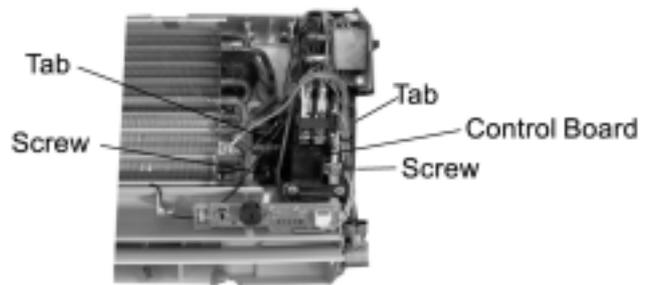

Fig 6
3. Release the tabs and screws on the left and right side of the control board to remove the control board. (Fig 6)